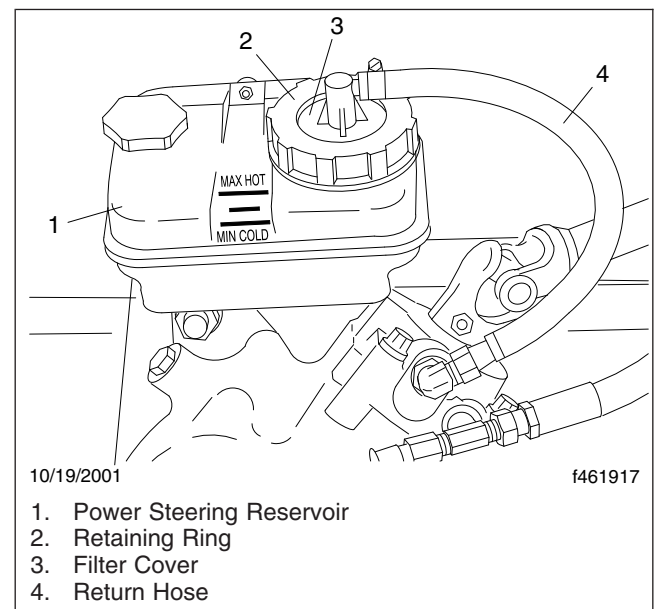

Fig. 1, Power Steering Reservoir
3. Remove the retaining ring from the reservoir. See **Fig. 1**.
7. Using ATF fluid that meets Dexron III or TES-389 specifications, fill the reservoir with an approved power steering fluid to the line between the MIN COLD and MAX HOT lines. See Fig. 1.